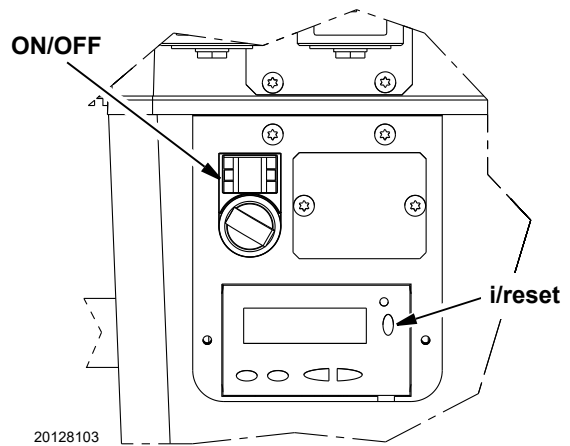

Fig. 160
- Turn the "ON/OFF" (Fig. 160) selector to "OFF", standby (OFF).
- Entering the password of the technician (SO) using the buttons "+", "-" and "i/reset". See also chapter "Entering the password" on page 37.
Turn the "ON/OFF" switch to "OFF" (Fig. 160 on page 47).